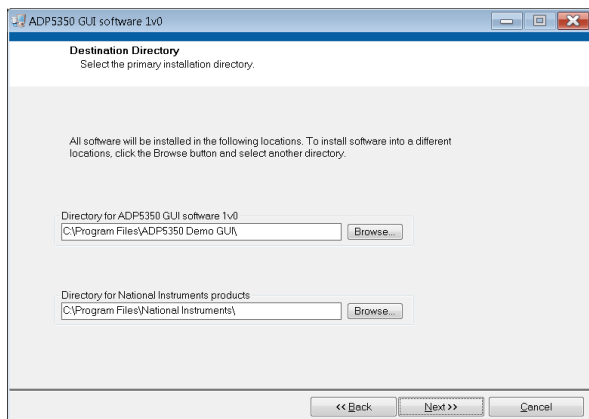

Figure 4. Choose Destination Location
2. Click **Next** to install the files to the default destination folder or click **Browse...** to choose a different file (see Figure 4).